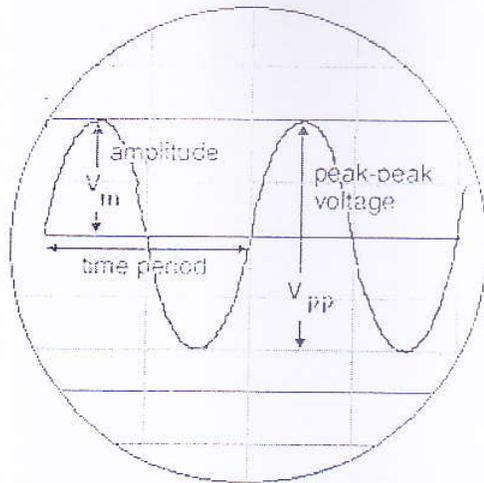

Fig 14 A sine wave defining amplitude and frequency.
Voltage measurement To measure the voltage of an ac waveform, connect the ac signal from signal generator to CRO channel 1 such that a stable waveform such as that of fig 14. is displayed. Here V_{pp} is the peak to peak voltage and V_m is the maximum voltage.
Frequency Measurement The distance covered by one wave in fig. 14 , gives the time period (T) of the waveform.